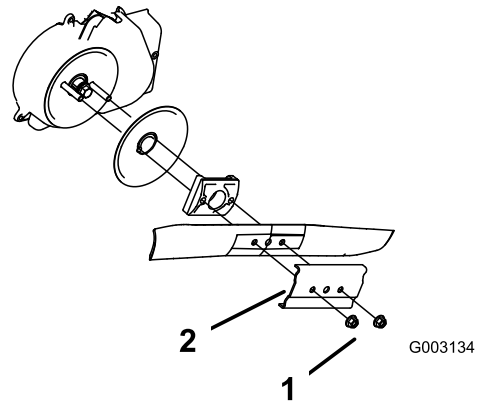

Figure 52
3. Remove the 2 blade nuts and the stiffener (Figure 52).
4. Remove the blade (Figure 52).
5. Install the new blade (Figure 52).